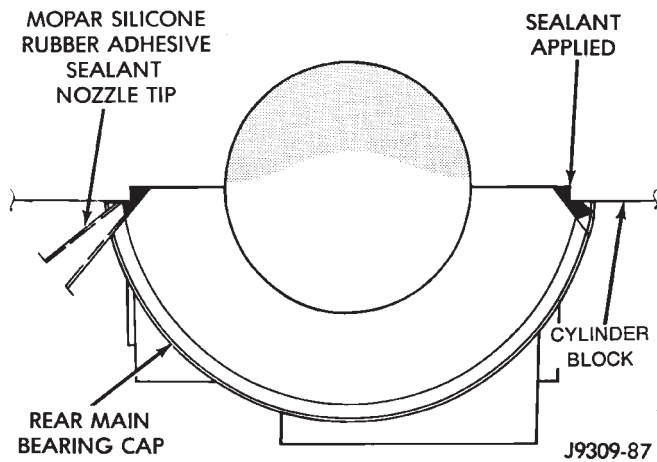

Fig. 47 Apply Sealant to Bearing Cap-to-Block Joint
(8) To align the bearing cap, use cap slot, alignment dowel, and cap bolts. DO NOT remove excess material after assembly. DO NOT strike rear cap more than two times for proper engagement.
(9) Clean and oil all cap bolts. Install all main bearing caps. Install all cap bolts and alternately tighten to 115 N·m (85 ft. lbs.) torque.
(10) Install oil pump.
(11) Apply Mopar Silicone Rubber Adhesive Sealant, or equivalent, at bearing cap-to-block joint to provide cap to block and oil pan sealing (Fig. 47). Apply enough sealant so that a small amount is
(6) To align the bearing cap, use cap slot, alignment dowel, and cap bolts. DO NOT remove excess material after assembly. DO NOT strike rear cap more than two times for proper engagement.
(7) Install the rear main bearing cap with cleaned and oiled cap bolts. Alternately tighten ALL cap bolts to 115 N·m (85 ft. lbs.) torque.
(8) Install oil pump.
(9) Apply Mopar Silicone Rubber Adhesive Sealant, or equivalent, at bearing cap-to-block joint to provide cap-to-block and oil pan sealing (Fig. 47). Apply enough sealant until a small amount is squeezed out. Withdraw nozzle and wipe excess sealant off the oil pan seal groove.
(10) Immediately install the oil pan.